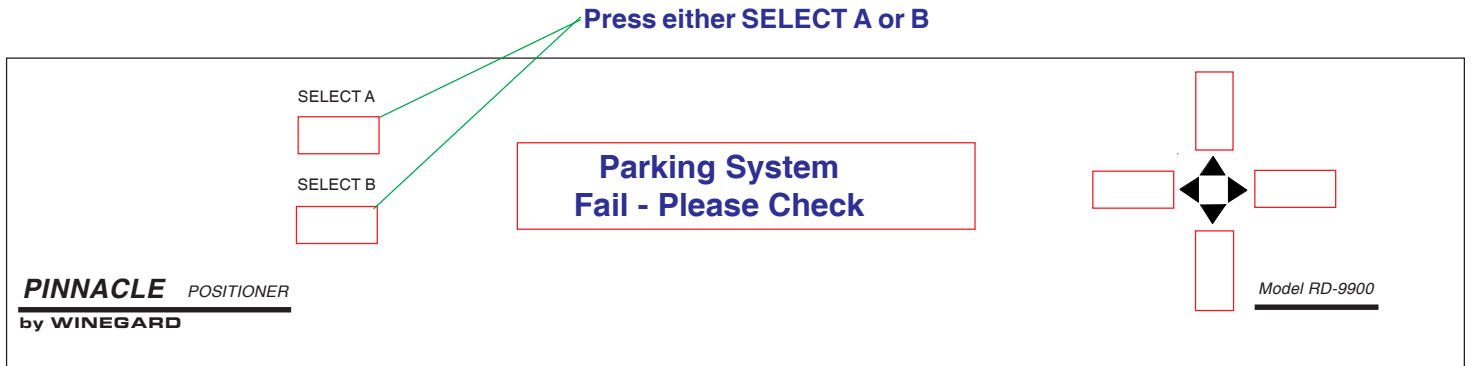

Figure 26
1. If the positioner displays the message shown in Figure 26, step out of your coach/RV and check the position of the antenna.